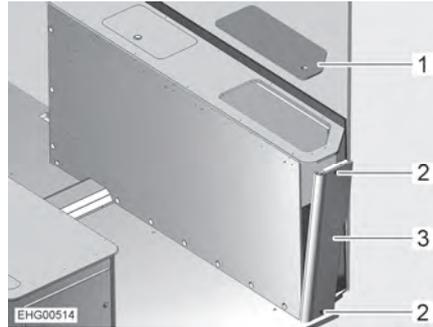

Fig. 121 Bedding box on the right
- Remove the service cover (Fig. 121,1).
- Unscrew 2 screws (Fig. 121,2).
- Reach into the bedding box from above and press the side wall (Fig. 121,3) slightly outwards.